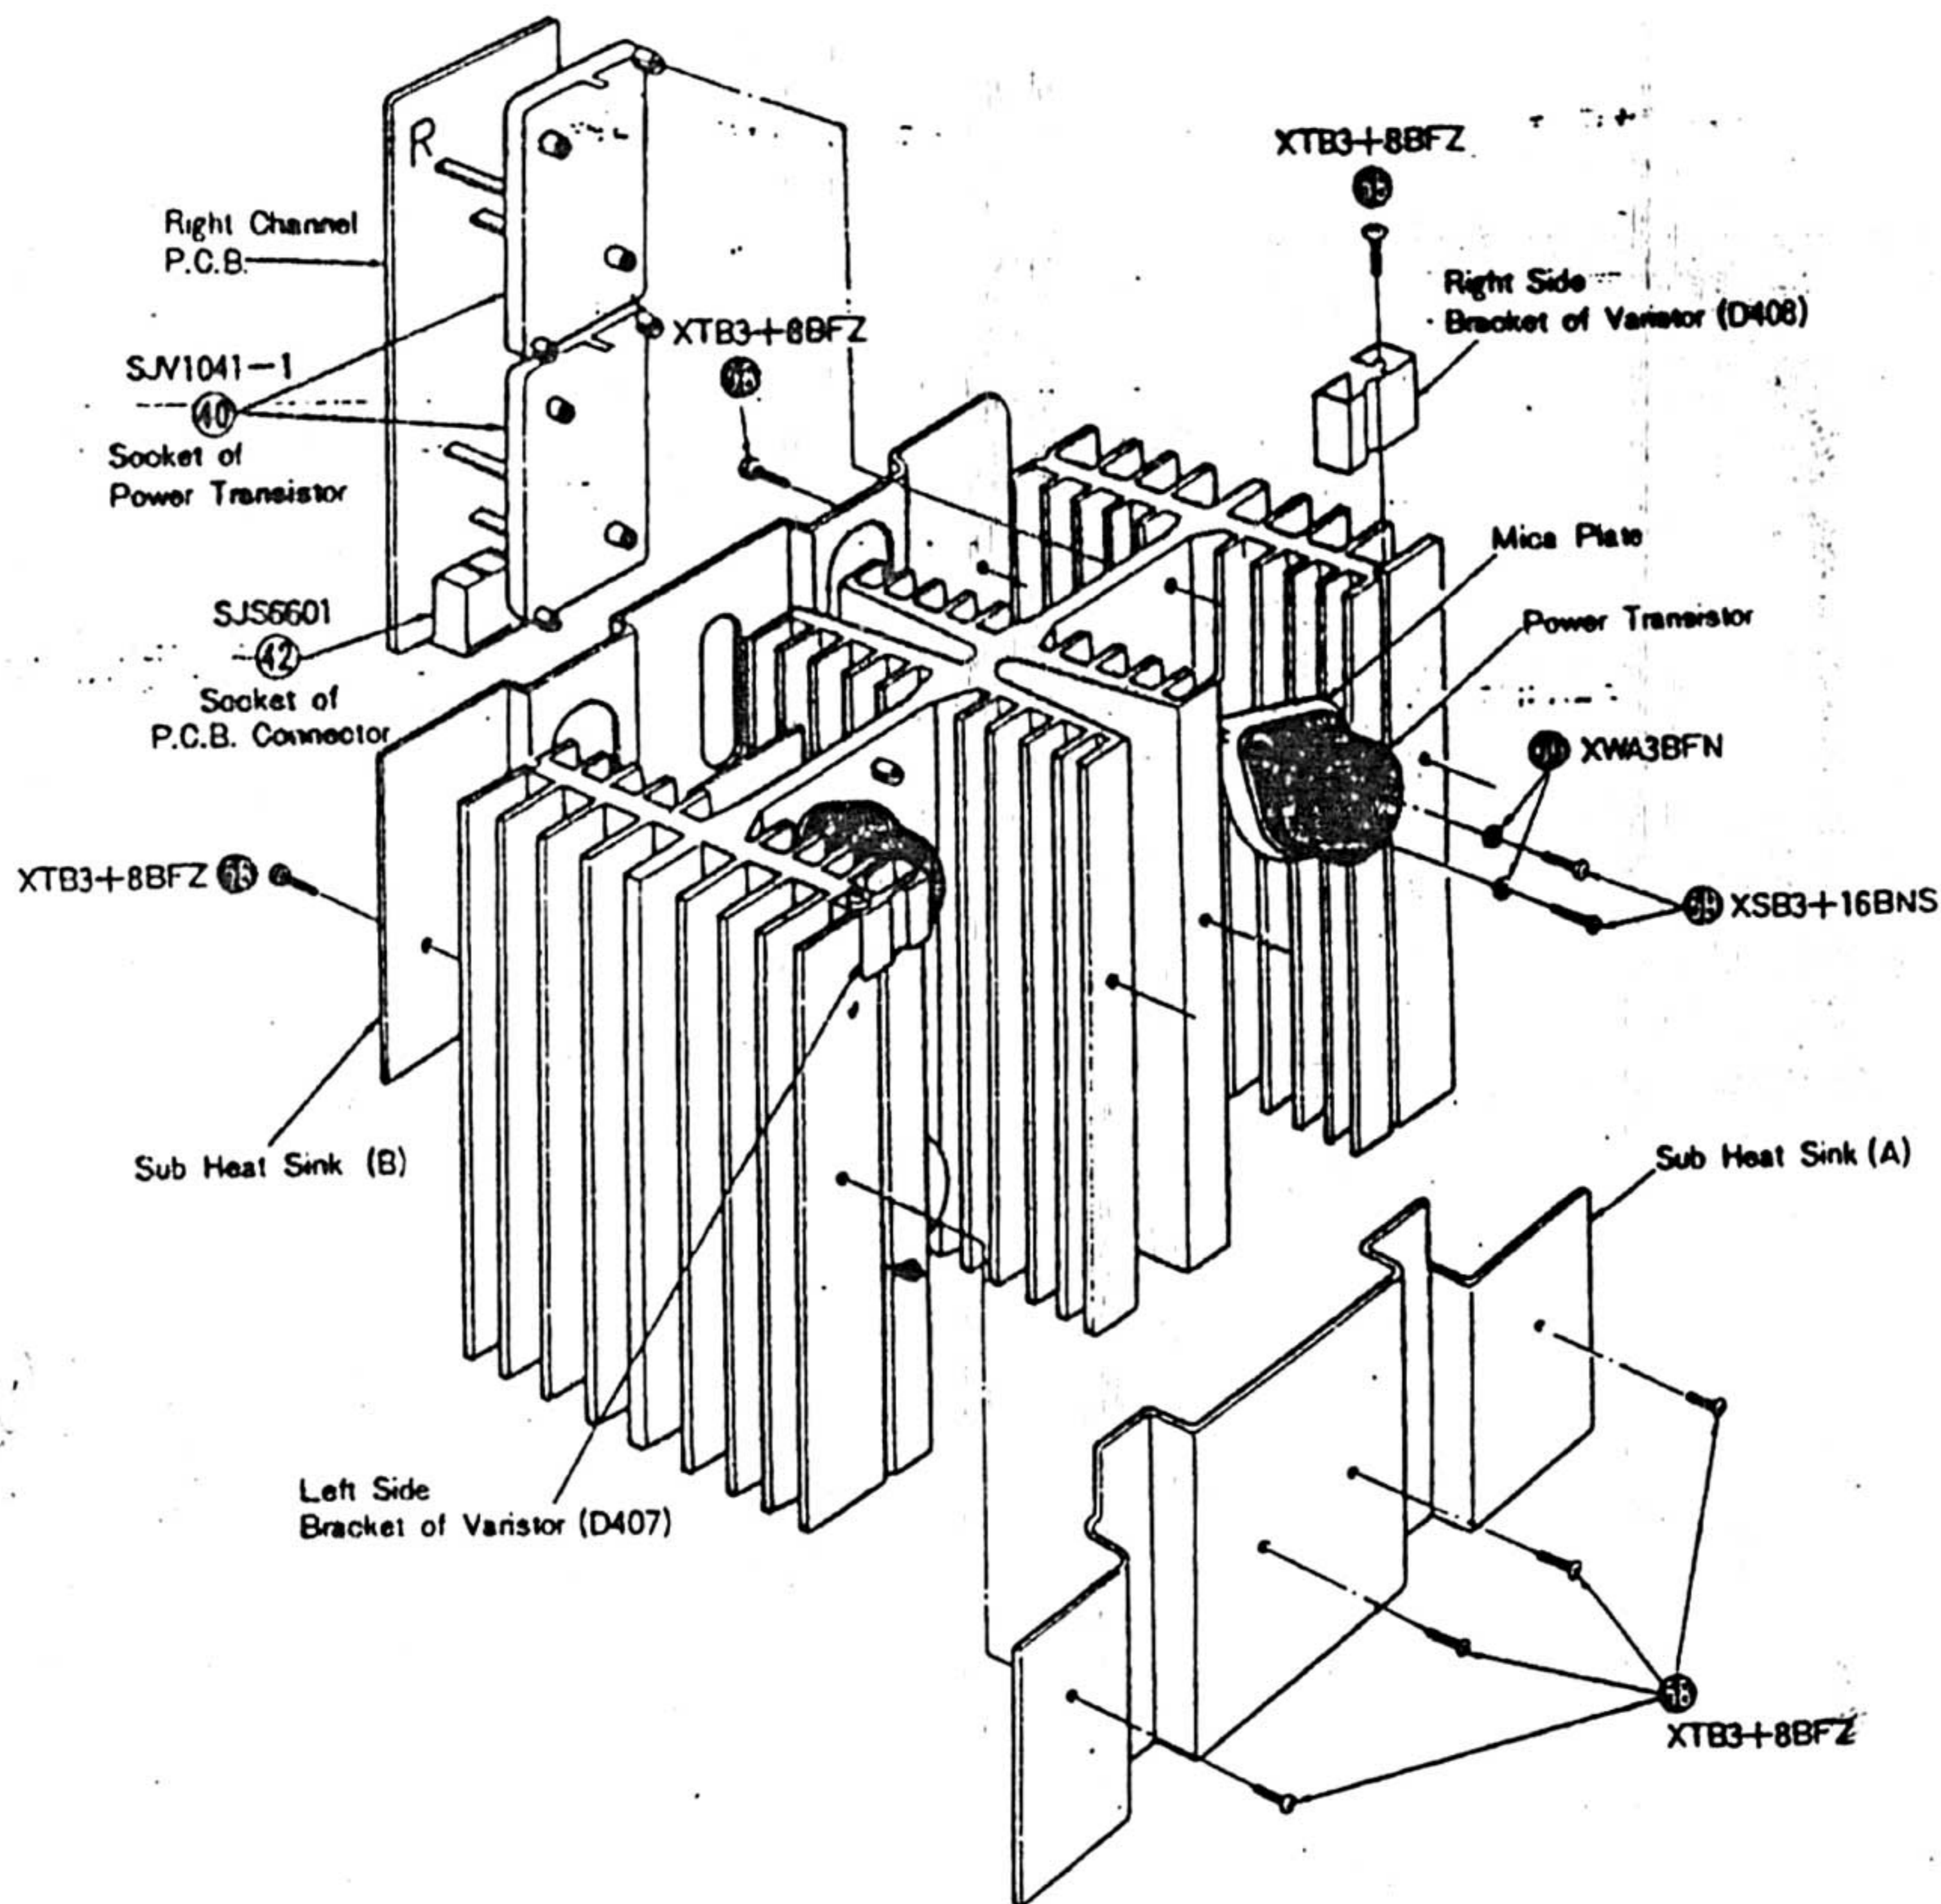

Fig. 8
5. Remove sub heat sinks (A) and (B) from the heat sink. (Fig. 8)
6. Remove the power transistor setscrews and pull it out of the heat sink. (Fig. 8)